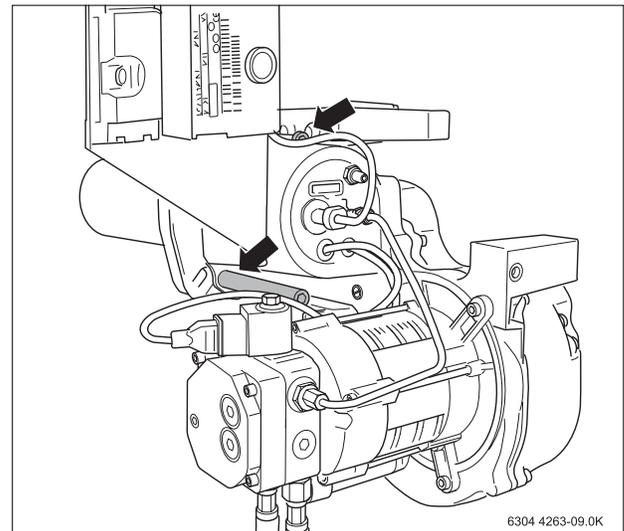

Fig 24 Removal of burner service bolts
- Loosen the 2 main burner service bolts (Fig. 24, **Arrows**).